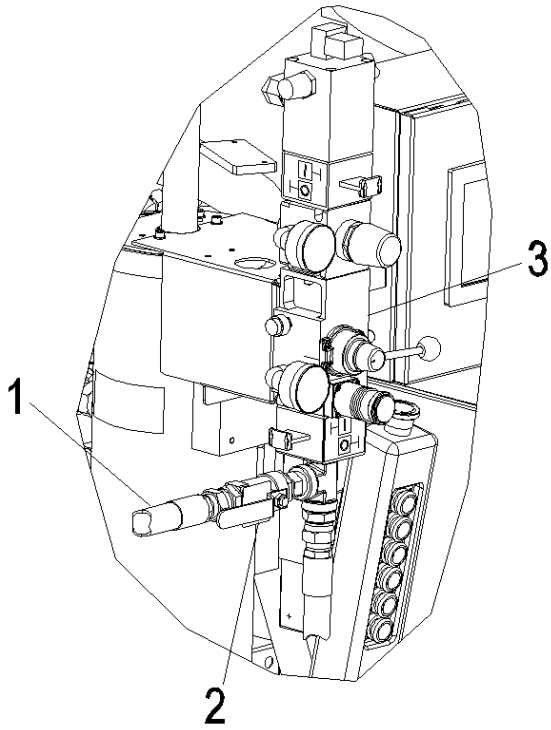

Fig. 5
Install Tandem airline to Supply pump located on the machine frame of the DC12. Refer to **Fig. 5**
1. Close Tandem Air Ball Valve. Refer to **Fig. 5**.
3. Remove Tandem Airline. Refer to **Fig. 5**.
1. Close Tandem Supply Air pressure Valve. Refer to **Fig. 5**.